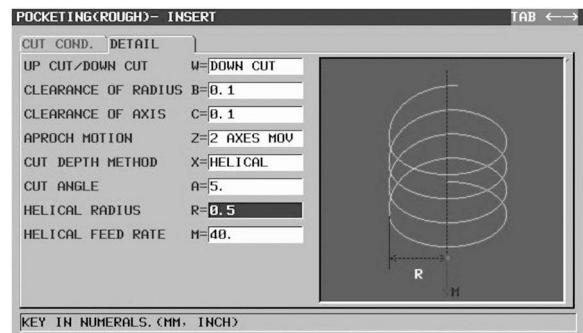

Figure 7-61 POCKETING (ROUGH),
- Set the HELICAL RADIUS R=0.5 per Figure 7-61.